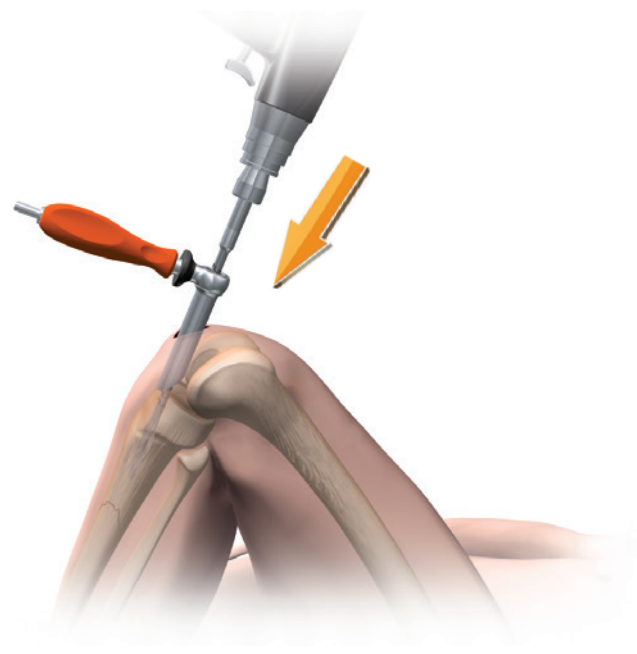

Figure 8
7. Advance the 12.5mm Entry Reamer (71631116) over the guide pin through the Entry Tube to a depth of 4–6cm (Figure 8).